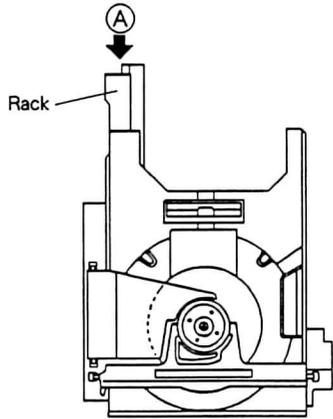
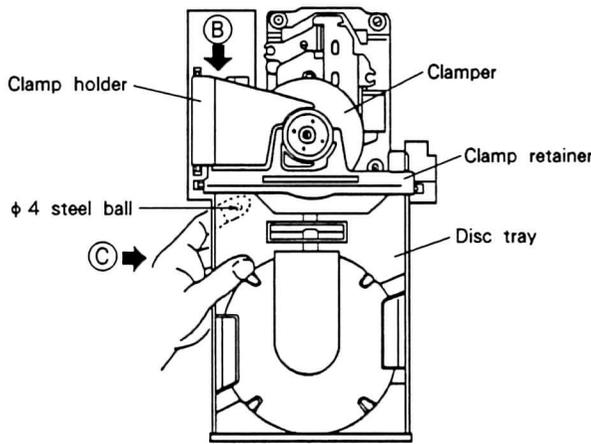
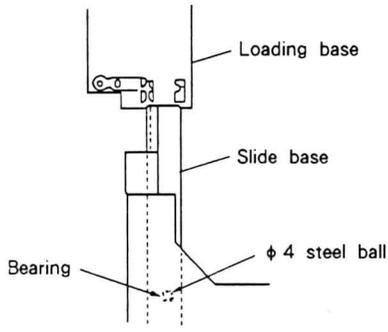
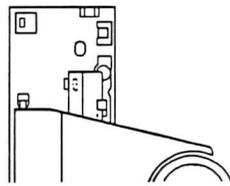

Fig. 7-3
Fig. 7-4
Fig. 7-9
Fig. 7-10
1. Press the rear edge of the rack, (\*1) marked **A** in Fig. 7-3, while pulling the disc tray out to the position where it catches, illustrated in Fig. 7-4.
2. While pulling the clamp holder **B** (see Fig. 7-4) upward with the right hand, hold the tray as indicated by **C** in the left hand and pull it outward. Take care not to allow the  $\phi 4$  steel ball to fall (we recommend holding the ball in place with the left index finger while extracting the tray.)
<p>Re-mount the disc tray according to the following procedure when the grating adjustment is complete.</p> <ol style="list-style-type: none"> <li>1. Remove the disc and the spacer.</li> <li>2. While lifting the clamp holder [marked ㊸ in Fig. 7-4] with the right hand, hold the tray in the left hand as indicated by ㊹ and slide the slide base into the hard resin fittings on the loading base as shown in Fig. 7-9 to re-insert the disc tray. At this time, be sure to hold the steel ball in place with the index finger of the left hand. Also, be careful that the front panel is not damaged by the slide base and bearing of the steel ball's bearing (in the slide base) coming into contact with the panel.</li> <li>3. Insert the slide base so that it fits into the two hard resin fittings at the rear of the loading base (see Fig. 7-10).</li> <li>4. Insert the tray tightly.</li> </ol>